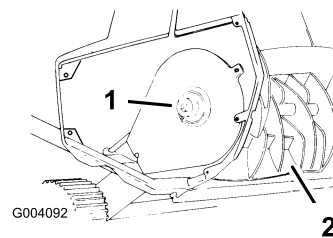

Figure 13
2. Use a 5/16 inch Allen wrench to turn the rotor shaft clockwise (left-hand thread) while holding the rotor (Figure 13).